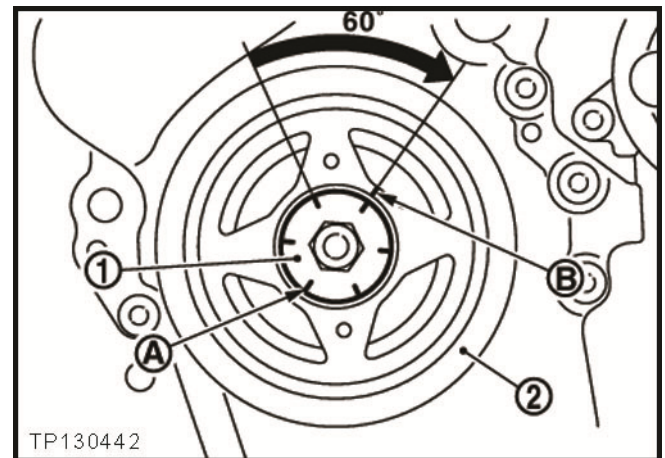

Figure 49
**Explanation of Figure 49:**
- The crankshaft pulley bolt flange (1) has 6 marks (A) that are 60 degrees apart.
- Make a mark (B) on the crankshaft pulley (2) next to one of the A marks on the bolt flange.